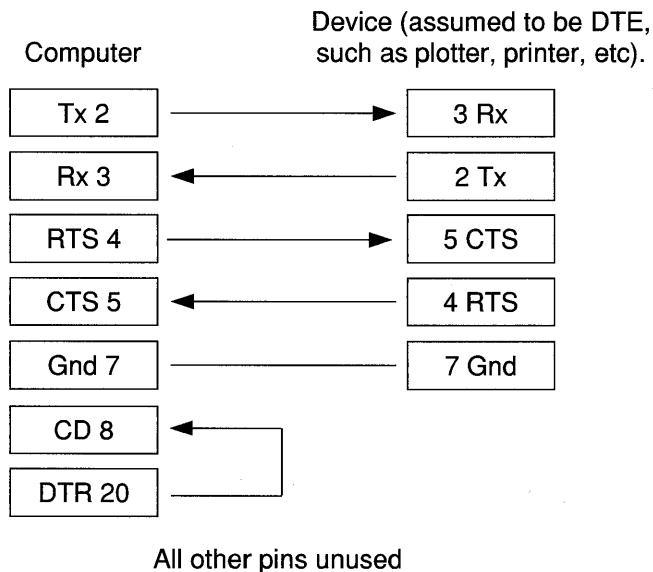

Figure 24-1 RTS/CTS handshaking for 25-pin connector
2. **For a device that uses the RTS and/or CTS lines for handshaking**, wire the cable as shown in Figure 24-1 (page 402).